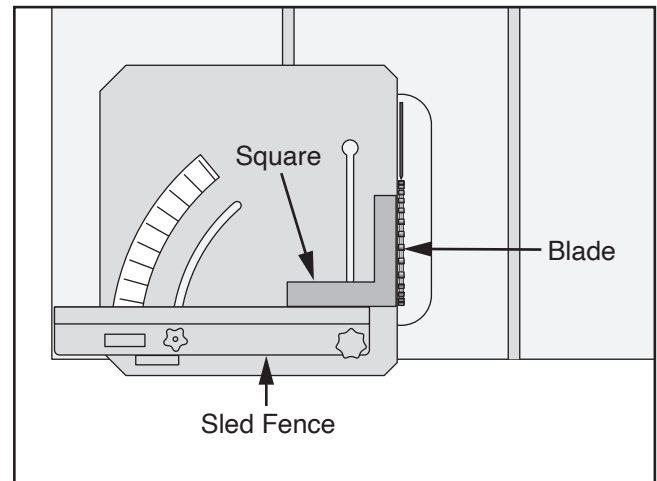
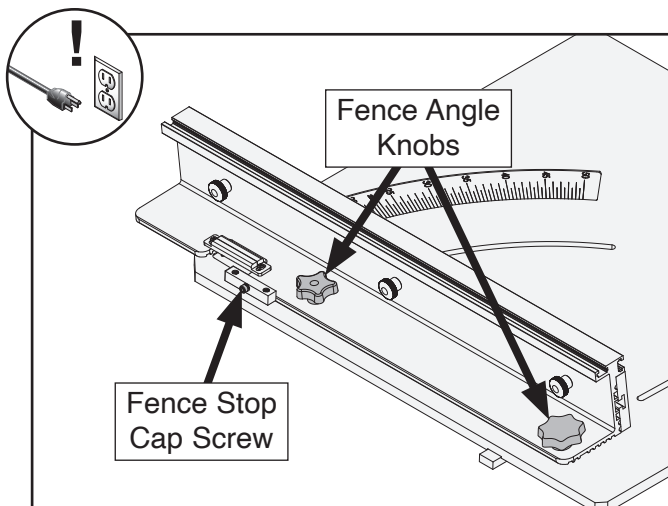

Figure 28. 90° square against blade and sled fence (blade guard removed for clarity).
Figure 27. Location of fence knobs and fence stop cap screw.
3. Loosen fence angle knobs shown in **Figure 27**, then place 90° square against blade body and sled fence (see **Figure 28**).
— If fence stop cap screw shown in **Figure 27** prevents this, loosen screw to move it out of the way.
5. Tighten fence stop cap screw (see **Figure 27**) until it contacts fence.